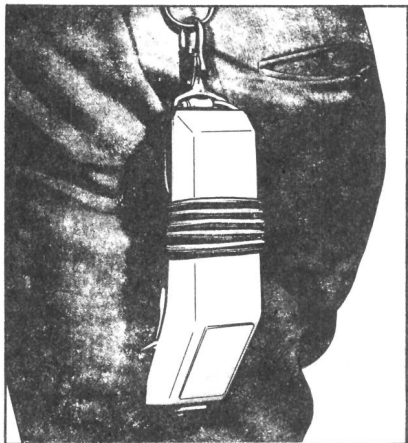

FIGURE 6. Wearing of Handset on Tool Belts
**2.09** All handsets are equipped with a snap hook to allow the handset to be carried on a tool belt. The hook is positioned in such a manner as to allow the handset to hang and follow the contour of the body, thus affording protection to the face of the handset as shown in Figure 6.